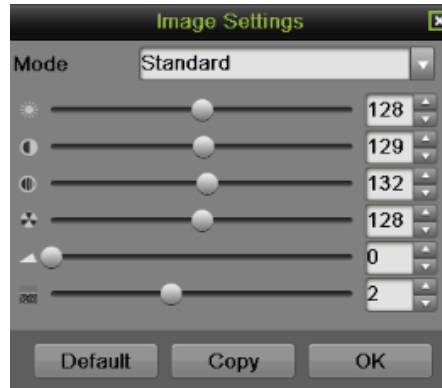
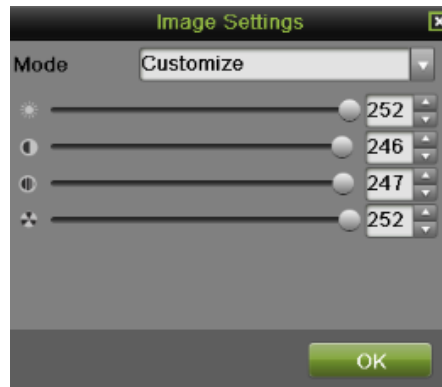

Figure 29 Analog Camera Image Settings Menu
Figure 30 IP camera Image Settings Menu
2. Click the Image Settings icon. This will bring up the Image Settings menu, analog camera is shown in Figure 29, IP camera is shown in Figure 30.